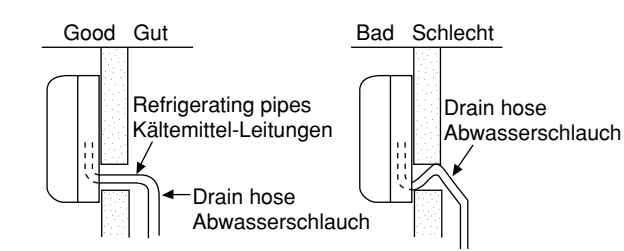

Fig. 5 Abb. 5
- For keeping smooth flowing of condensed water, the drain hose should be inclined as shown in Fig. 5.